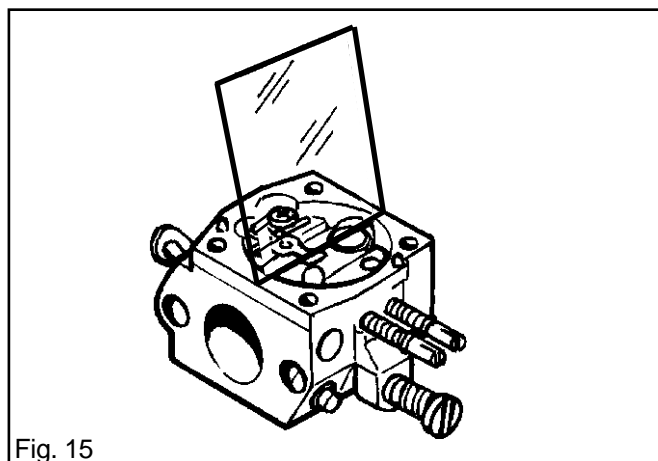

Fig. 15
6. Check with a ruler or similar that the lever arm is level with the cover face. See fig. 15. If necessary, the lever arm can be bent slightly.